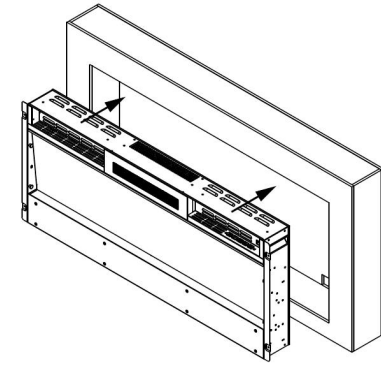

Fig.2
- Take the glass from the appliance first, then gently put the appliance to the cut hole by two persons. Please see Fig.2